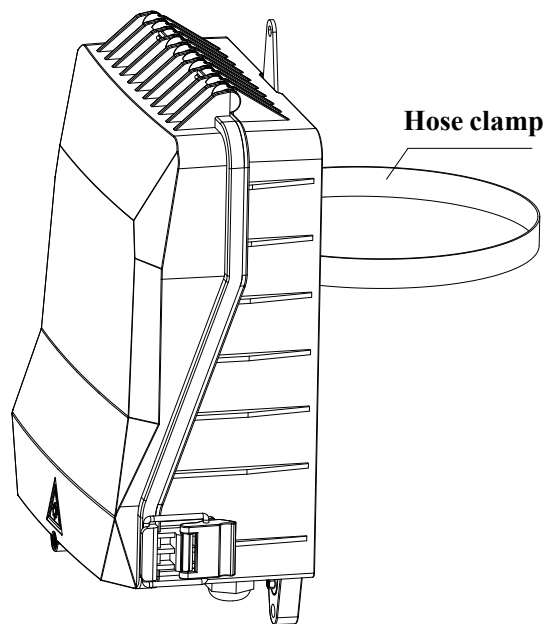

Figure 10
3.11 Wall mounting: Use the expansion screws to fix it on the wall. See Figure 10